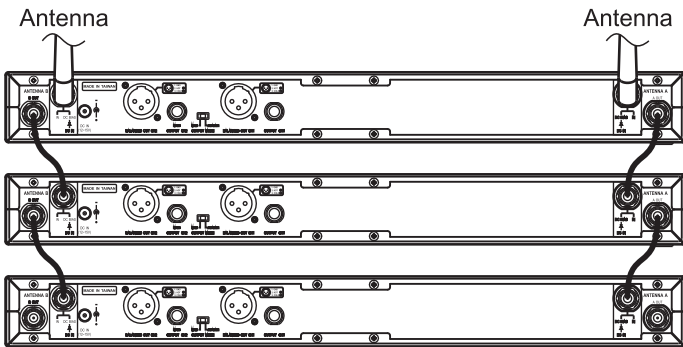

Fig. 5
(B) TNC connector for daisy chain output ❷ can be daisy-chained up to three receivers (one master receiver plus two daisy-chained receivers) one by one for optimal reception quality. Fig. 5